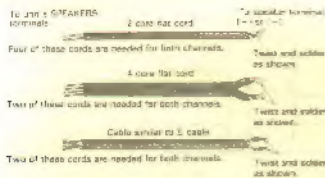

Fig. 2 Substituted Cords for  $\Sigma$  Cables
2. If the cables supplied are not ideal for your system, commercially available cables as shown in Fig. 2 can be used. Pay attention to polarities when using such cables. Keep the speaker cables as short as possible.